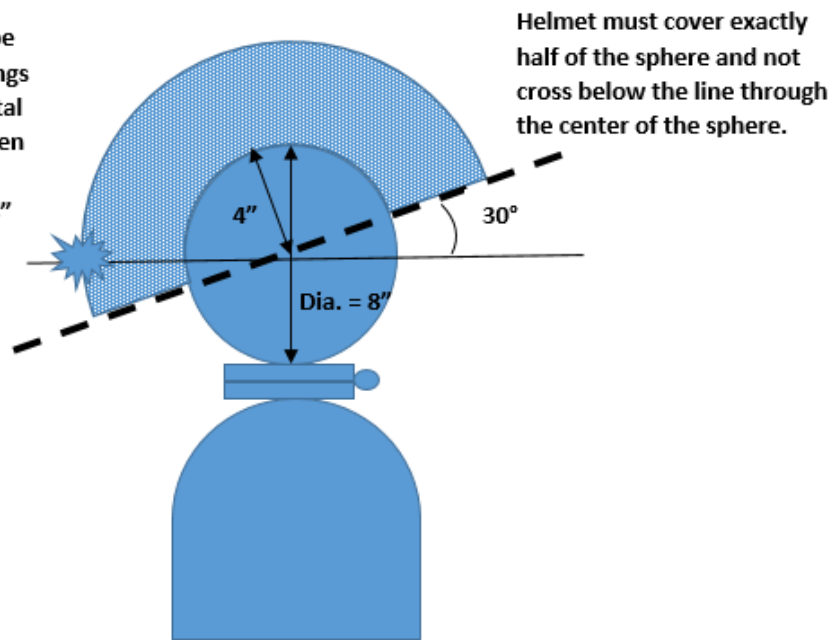

Fig 1:
Safety Helmets are generally tested via pneumatic droppers onto an anvil (see <https://www.ncbi.nlm.nih.gov/pmc/articles/PMC9379520/>). Though helmets frequently must meet many standards, the characteristic being tested in this High School Design Competition event is impact attenuation- the ability to reduce the maximum acceleration caused by an impact the head experiences. In this event, instead of dropping the helmet on an anvil, we will be swinging an anvil to impact the helmet (see Fig. 1). Here, the anvil will be made of wood.
- The helmet must cover the upper 4” hemisphere of the Styrofoam sphere (see Fig.1).
- The helmet must be marked showing the impact target point. Target point will be marked as a 1” diameter circle such that the center point of the mark is on the horizontal bisection line of the sphere when the head is angled 30 degrees down (Fig. 1).
At their assigned testing time, teams will be given 5 minutes to secure their helmet to the testing head. The sphere will be oriented downward such that the entirety of the pendulum impact will be on the helmet at the target impact point. Target point will be marked previously by the team as a 1" diameter circle such that the center point of the mark is on the horizontal bisection line of the sphere when the head is angled 30 degrees down (Fig. 1). The helmet should fit snugly on the 8 inch testing head and be secured such that it does not damage the Styrofoam and does not deviate from its initial position on the head upon impact more than 1 cm from the original position on the centerline. If the helmet is displaced on the head excessively during the impact, that trial will not be valid and a retest will be allowed. If the helmet is displaced 3 times resulting in invalid trials, the helmet will be ruled ineffective and receive a score of 0 for Acceleration Score.
Fig 1: Impact points must be marked with 1" dia. markings and line up on the horizontal bisection of the sphere when the helmet is angled 30° down. (Fig not to scale). 8" diameter head.